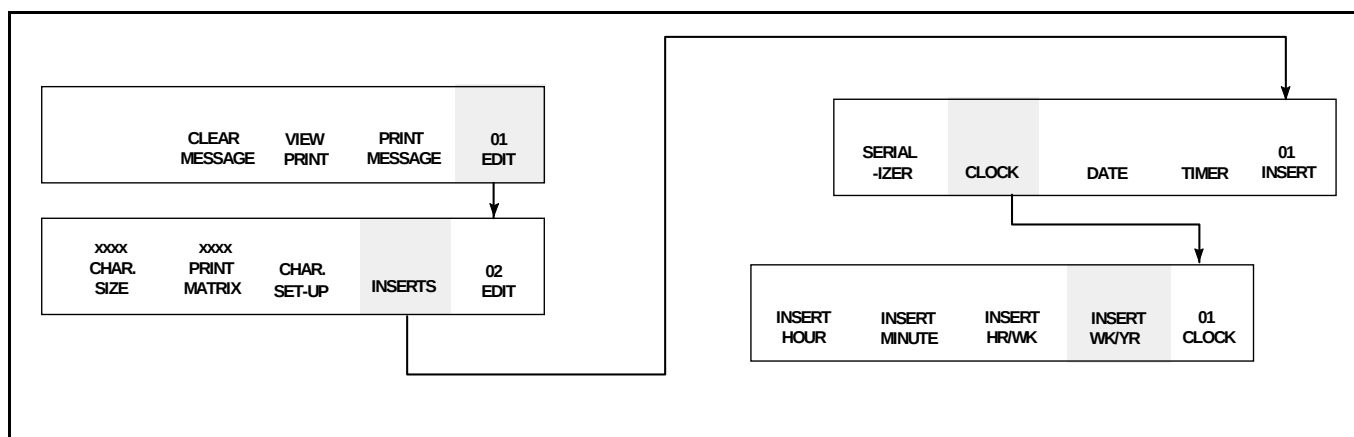

Figure 6-24. Accessing Frame <01 CLOCK>
1. Begin in Frame <01 CLOCK>. Refer to Figure 6-24.